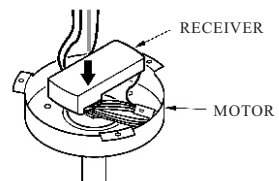

FIG.6
3. Place receiver onto motor assembly. Flat side up.(see fig.6)